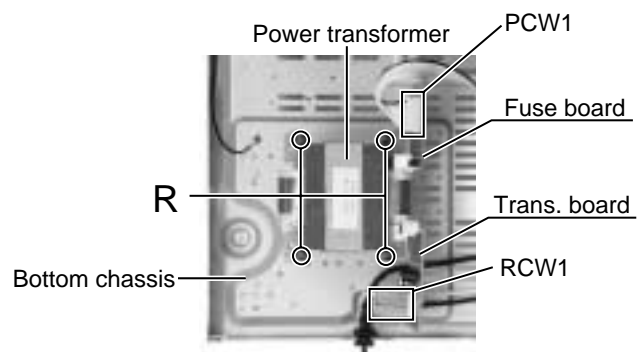

Fig.17
■ Removing the power transformer (See Fig .17)